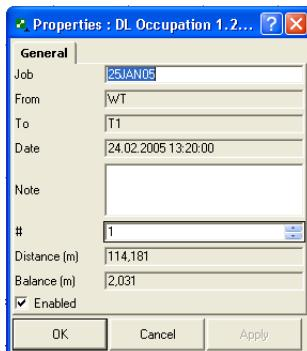

Figure 5-111. General Properties
- View or edit *General* tab fields. Edit the name, order and note of the job, as needed (Figure 5-111 on page 5-78).
2. View or edit *General* tab fields (Figure 5-111). Edit the *Start Point* and *End Point* parameters as needed.